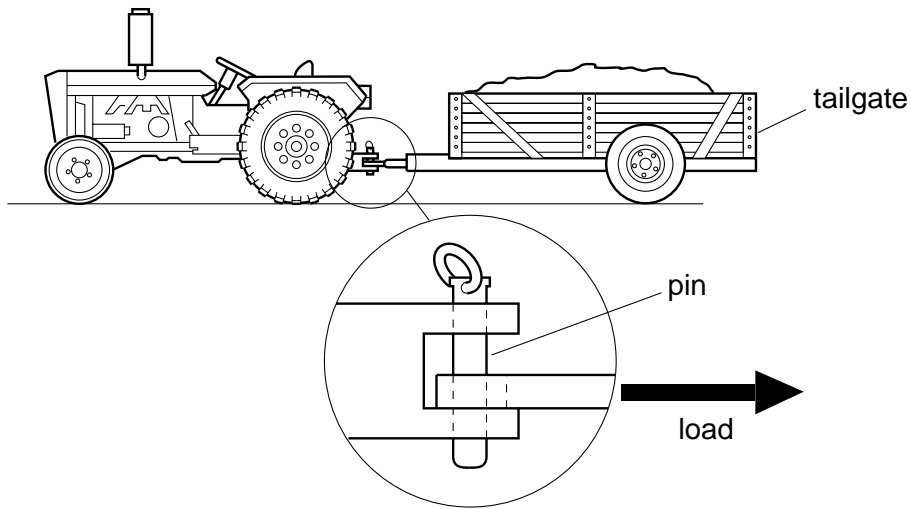

Fig. 1
- 1 Fig. 1 shows a tractor, its trailer and detail of the coupling used to connect the tractor to the trailer.
2 A strain gauge is used to measure strain in the trailer coupling in Fig. 1.